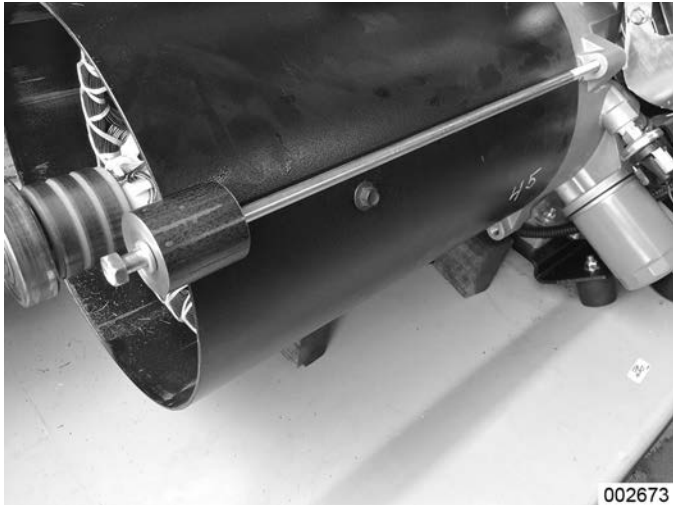

Figure 6-40.
20. **Stator Holding Tool:** See Figure 6-40. Insert two previously removed stator bolts into the two stator holding adapters (0K8824) and screw the bolts into the engine at the 10 o'clock and 4 o'clock positions. Tighten only enough to hold the stator in place. **DO NOT OVER TIGHTEN!**